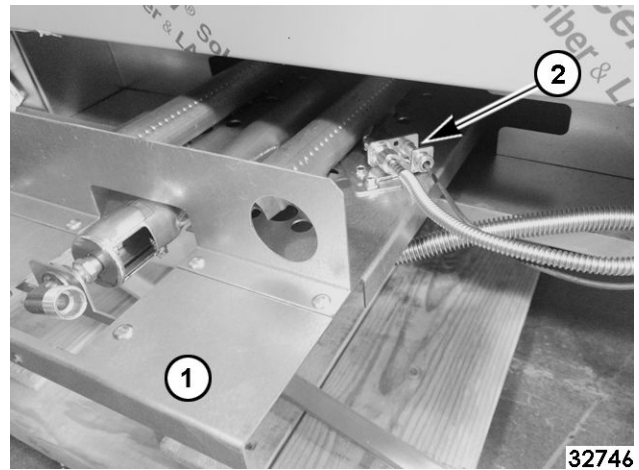

Fig. 58
- Lift and pull burner drawer box (1, Fig. 58) out from oven until pilot burner is accessible.
- Pull burner out and disconnect pilot gas tubing and thermocouple (2, Fig. 58).